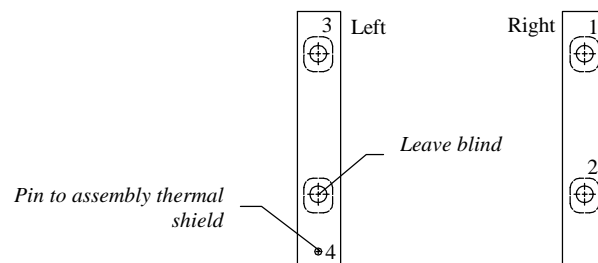

Fig. 2
3. Fig. 2 shows chassis frame from below the car: holes 1, 2 and 3 make clear, next through this holes drill $\varnothing 11\text{mm}$ to trunk (make very carefully).
4. Unscrew the nut from the pin (see fig. 2, pos. 4). Pull heat cover, next cut off pin. In place of pin drill hole $\varnothing 11\text{mm}$ straight through inside trunk (make very carefully).